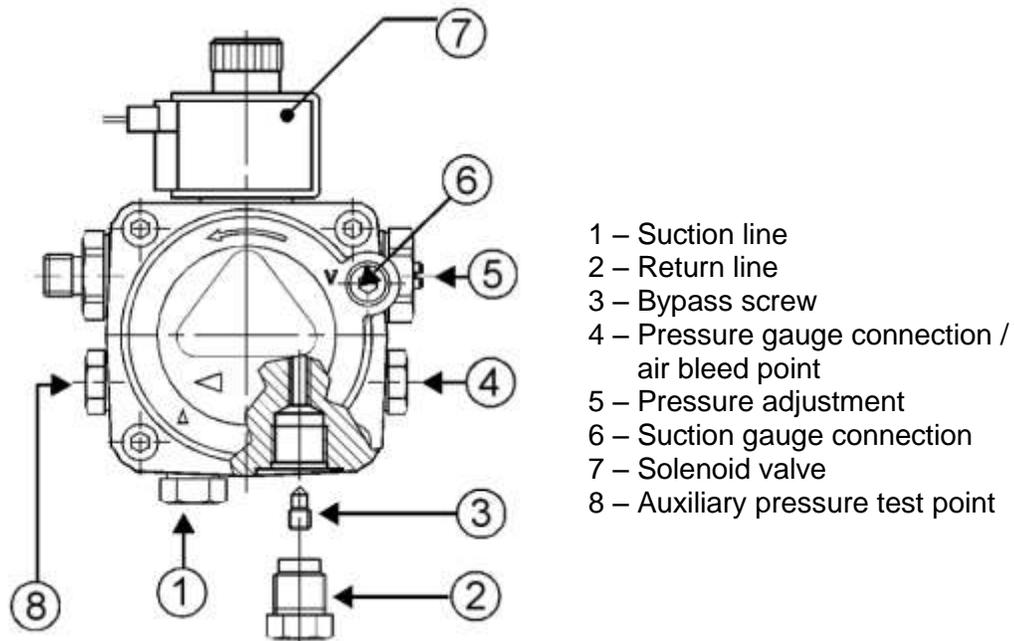

Fig 4
Where the lowermost part of the tank is above the level of the oil pump, a single-pipe gravity system can be used. The supply pipe should be connected to the suction port on the burner pump via the flexible hose (supplied). The pump is pre-set to run on single-pipe oil supplies—the bypass screw (3) must not be present in the return line (see fig 4).